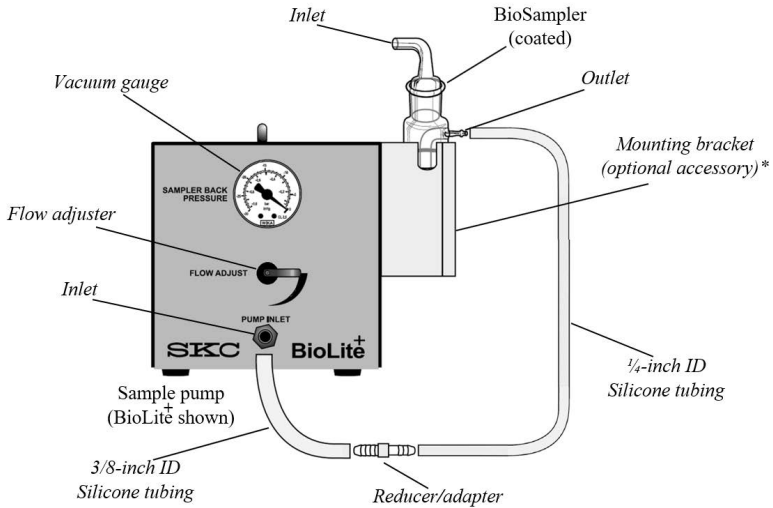

Figure 4. Sampling Train with Coated Collection Vessel
- b. **If using a coated collection vessel** (Figure 4), connect the BioSampler outlet (nozzle section) to the sample pump inlet as shown in Figure 4.